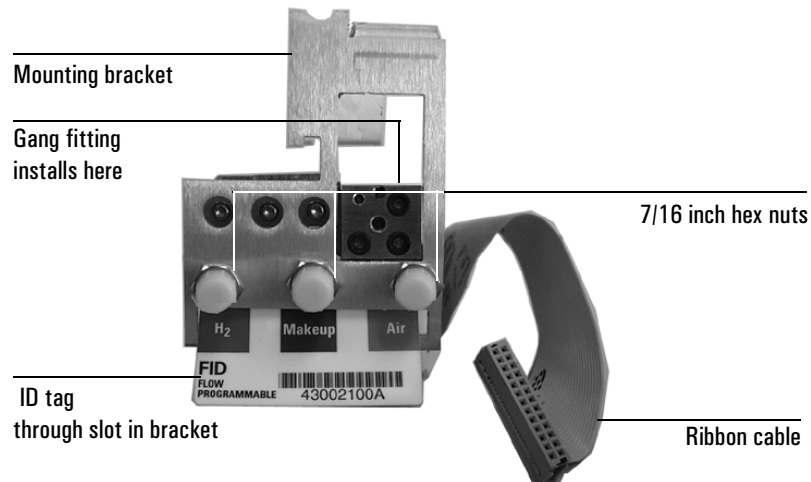

Figure 6 Bracket mounted onto the manifold
1. Slip the ID tag on the new manifold through the slot in the mounting bracket, then align the bracket holes over the gas fittings. Secure the bracket with three 7/16 inch hex nuts. See Figure 6.